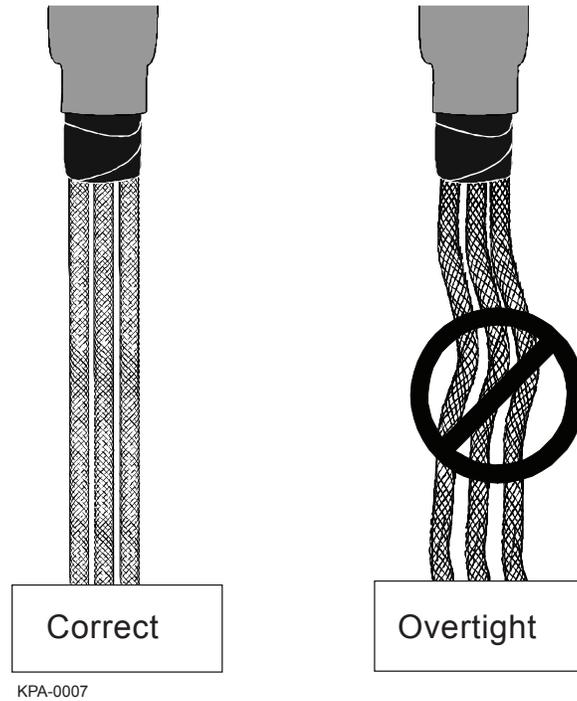

Figure 21
Step 1: Gently remove the extra slack in the braided tubing by sliding your hand down the braided tube (Figure 21). Do NOT pull on braided tubing!